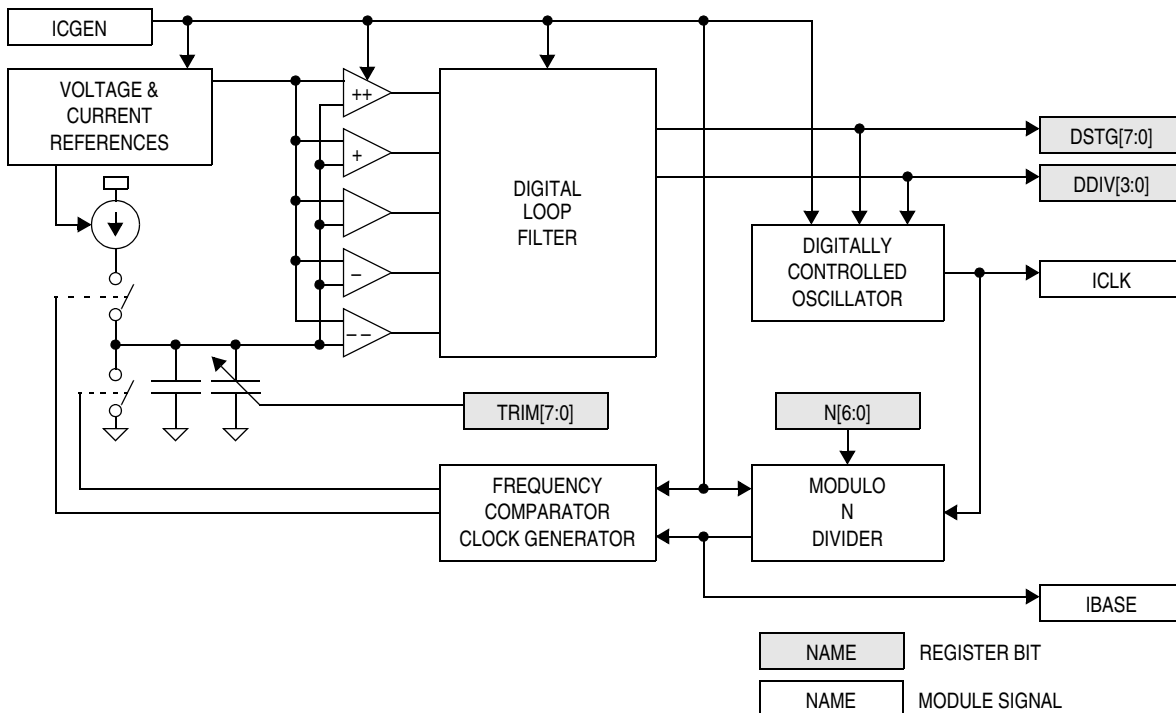

Figure 6-2. Internal Clock Generator Block Diagram
The internal clock generator, shown in **Figure 6-2**, creates a low-frequency base clock (IBASE), which operates at a nominal frequency (f_{NOM}) of 307.2 kHz \pm 25 percent, and an internal clock (ICLK) which is an integer multiple of IBASE. This multiple is the ICG multiplier factor (N), which is programmed in the ICG multiplier register (ICGMR). The internal clock generator is turned off and the output clocks (IBASE and ICLK) are held low when the internal clock generator enable signal (ICGEN) is clear.